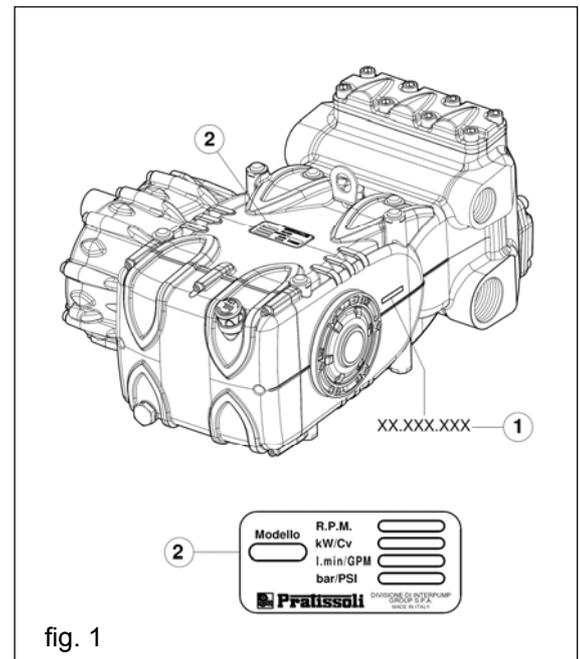

fig. 1
Each pump (fig. 1) has its own serial number XX.XXX.XXX (see point ①) and a rating plate (see point ②) that indicates: